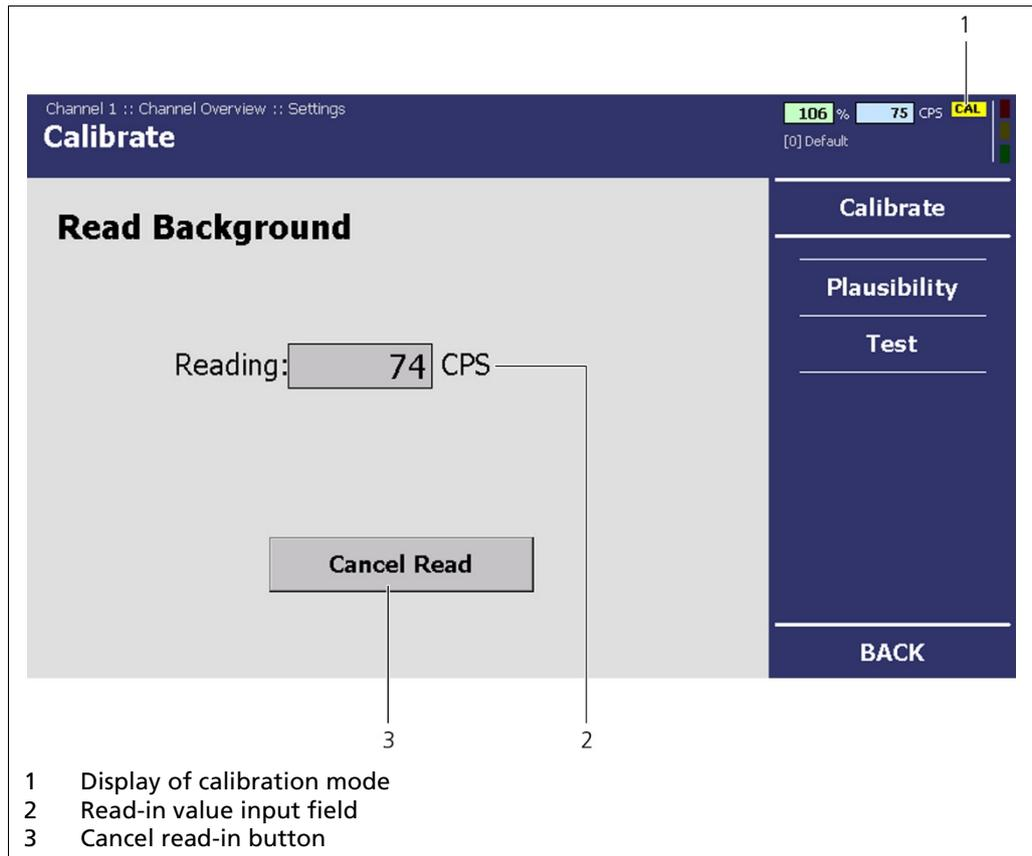

Fig. 58 System Menu, Settings - Calibration (reading in calibration point)
2. The "Background Level" menu opens (Fig. 58). Close and remove the radiation source from the detector. Otherwise, the measuring of the background radiation is disrupted.
3. Click on <Read in> (Fig. 58, Item 4) to read in the background level or click on <Default> (Fig. 58, Item 3), to use the standard value of 50 cps (preset).
4. Confirm your entry by clicking on <OK> (Fig. 58, Item 2).